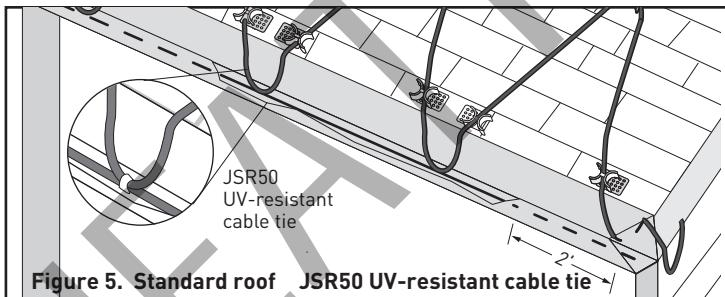

Figure 5. Standard roof JSR50 UV-resistant cable tie
- Loop the heating cable on the overhang area of the roof. This is the part that extends past the building wall. Extend the bottom of each heating cable loop over the roof edge and, using a UV-resistant cable tie, connect the bottom of each loop to the cable running in the gutter to ensure a drainage channel off the roof and into the gutter and downspout. The cable running in the gutter should remain against the bottom of the gutter as shown in Figures 5 and 6.